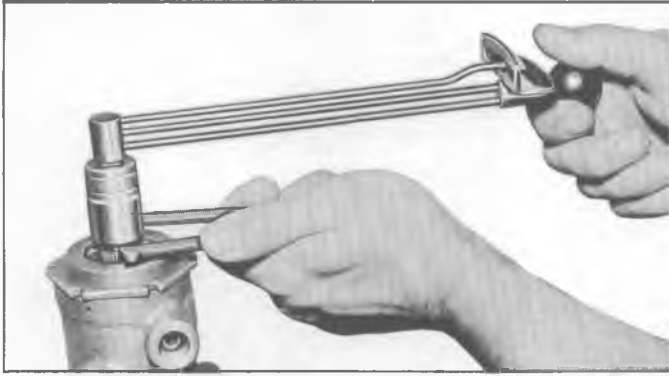

Fig. 56—Adjusting Adjuster Plug
5. After worm thrust bearing preload has been adjusted as previously outlined under "Adjuster Plug Assembly" adjust pitman shaft lash adjuster screw so that preload is 4 to 8 inch-pounds in excess of bearing preload and valve drag readings combined. This pitman shaft preload reading should be taken with the gear on center and while rotating the steering shaft through an angle of not more than 20° (fig. 56). Tighten lash adjuster locknut. The final overcenter reading which represents the total of the valve and seal drag, the worm bearing preload, and the lash adjuster preload, should not exceed 16 inch-pounds.